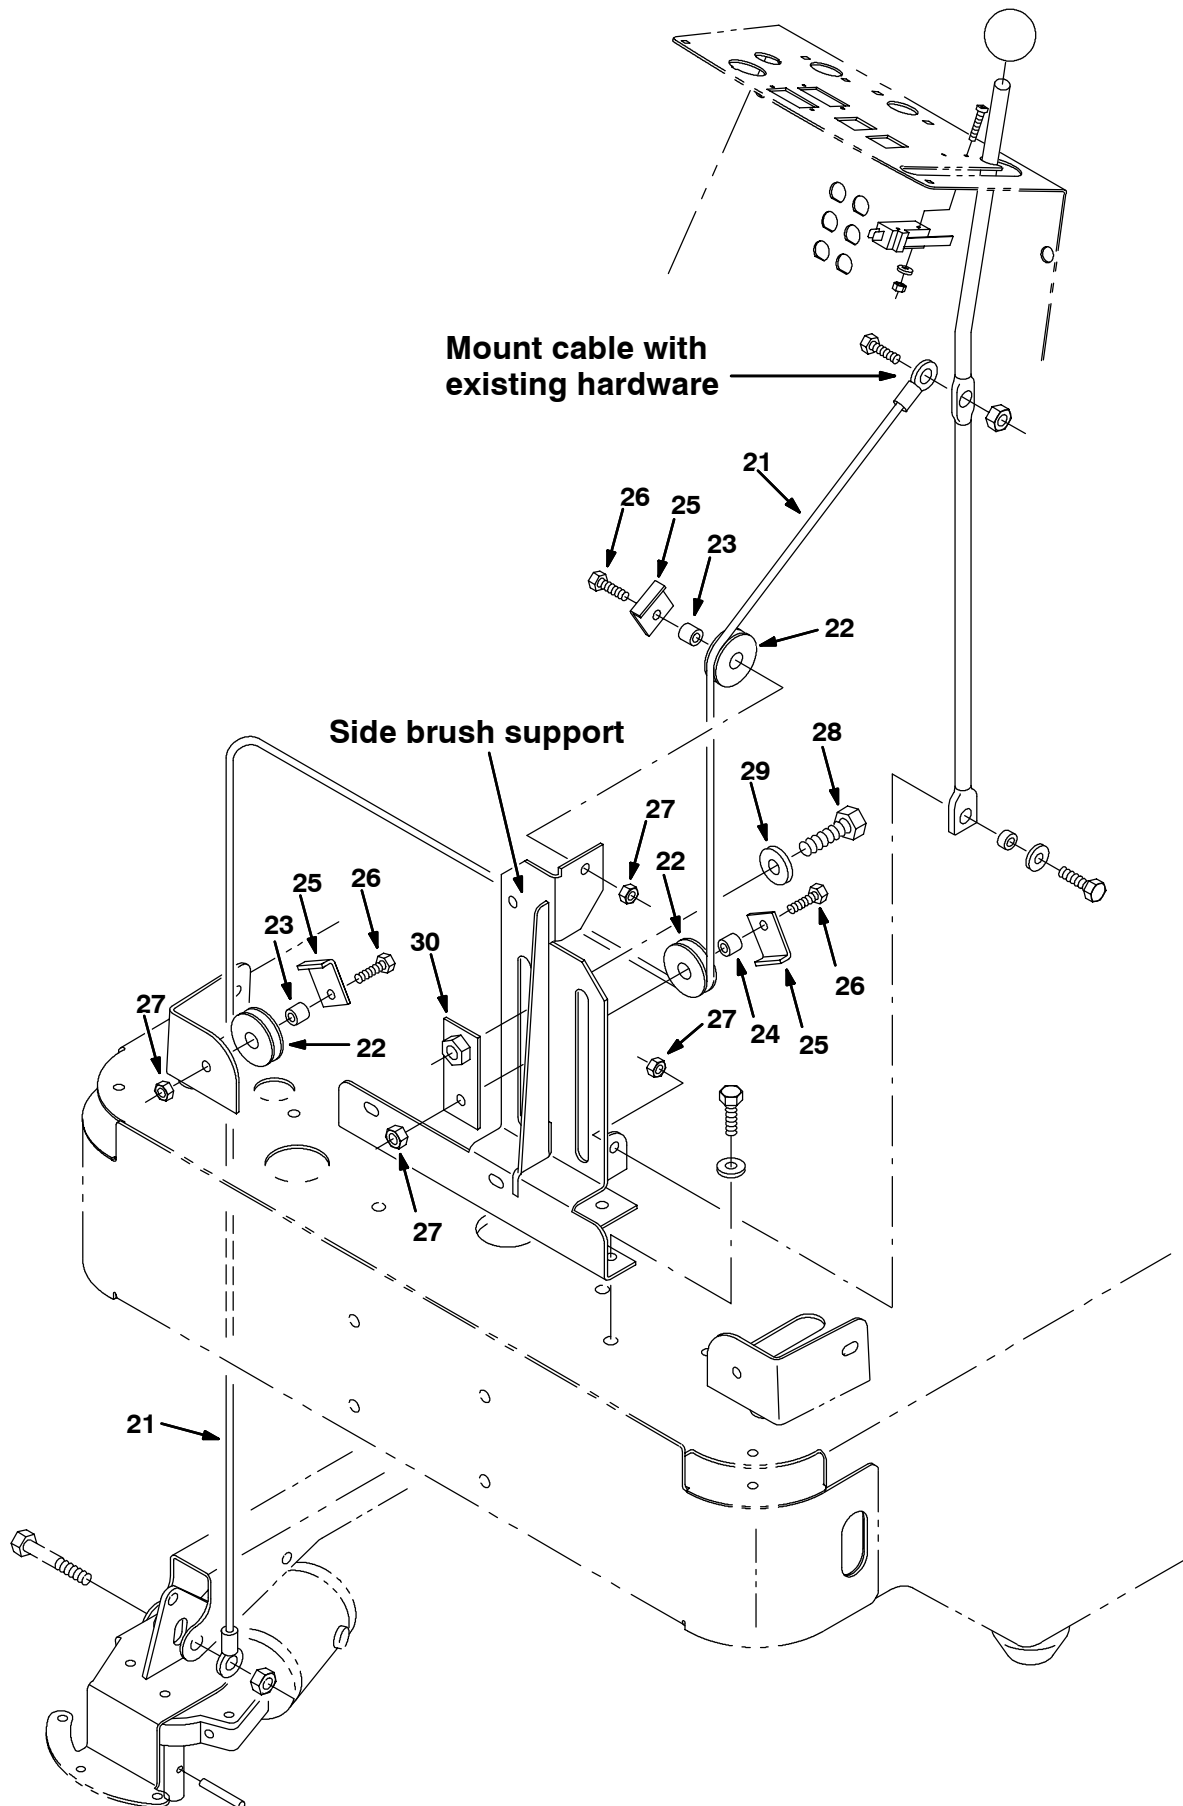

FIG. 3 - SIDE BRUSH LIFT GROUP INSTALLATION
1. Guide the right hand side brush lift cable (21) up through the frame of the machine just inside the right, front corner brace. (Refer to FIG. 3)
2. Route the lift cable (21) up over the pulley (22). Secure the cable and pulley to the corner brace with one hex screw (26), angle piece (25), sleeve (23), and hex nut (27). Tighten hardware finger tight. (Refer to FIG. 3)
3. Mount the side brush lift plate (30) to the right side of the side brush support with hex screw (28), and washer (29). Tighten the hardware finger tight. (Refer to FIG. 3)
4. Guide the lift cable (21) under the second pulley (22). Secure the lift cable (21) and pulley (22) to the side brush support with one hex screw (26), angle piece (25), sleeve (24), and hex nut (27). (Refer to FIG. 3)
5. Guide the lift cable (21) over the third pulley (22). Secure the cable (21) and pulley (22) to the top of the side brush support with one hex screw (26), angle piece (25), sleeve (23), and hex nut (27). Tighten the hardware finger tight. (Refer to FIG. 3)
6. Connect the end of the lift cable (21) to the side brush lift handle with already existing cable mounting hardware. (Refer to FIG. 3)